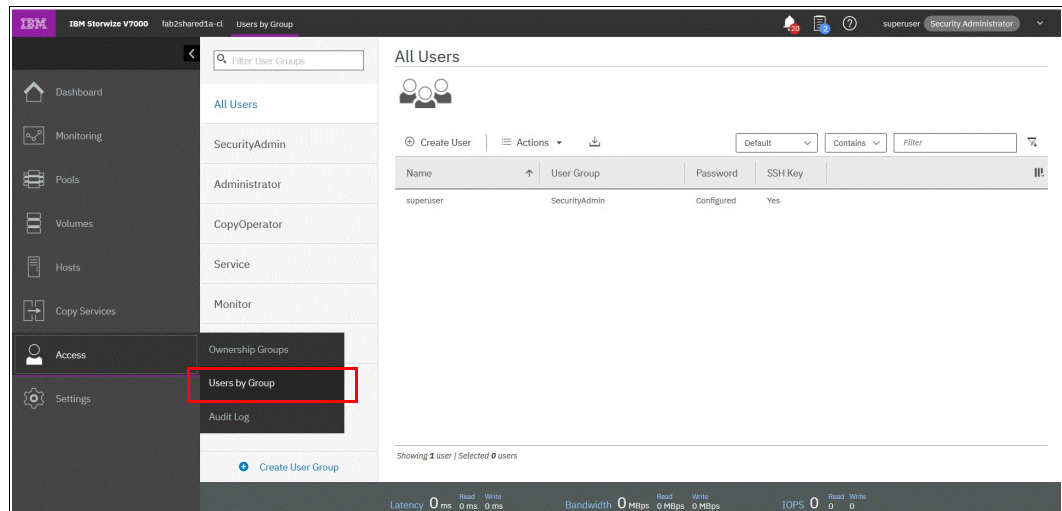

Figure C-4 Opening the user section
1. Open the user section in the GUI, as shown in Figure C-4.